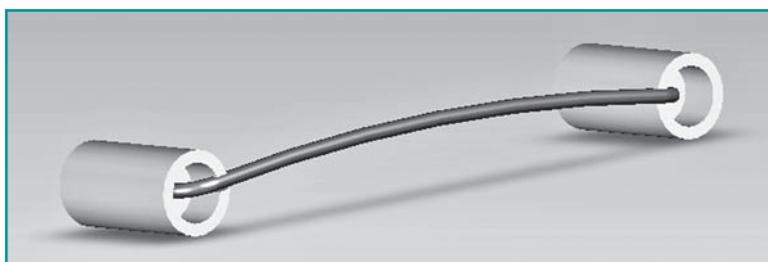

Figure 3-8: The PTP cartridge bypass tube, showing its curvature
- ⓘ The bypass tube is manufactured with a slight sideways curve (viewed from the top; see Figure 3-8), which helps secure it in place with a friction fit in its slot, in the camera door. With time and use, this curve may become less pronounced and the bypass tube may tend to pop out of its slot. If this happens, **gently** bend the bypass tube sideways to re-form its initial curve.